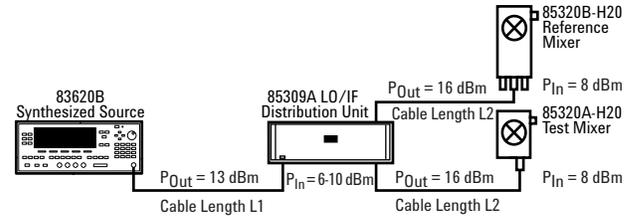
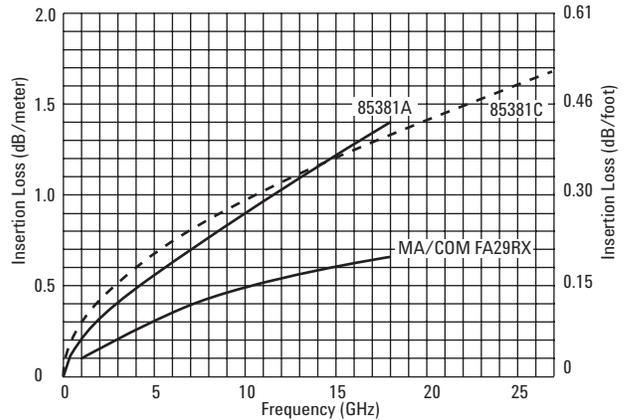

Figure 11. Required RF power levels for 85320A/B-H20 mixers
Figure 12. Insertion loss for 85381 series cables
Select a source that meets your individual preferences and needs. The higher-output power sources are useful when the distance between the LO source and the 85309A LO/IF, distribution unit is longer than the standard allowable cable lengths shown in Tables 6 through 11. By using the cable insertion loss curves (Figures 12 and 13) the additional cable length can be calculated for the higher-output power sources. The 1 Hz frequency resolution (Option 008) is recommended for both the RF and LO sources to provide a system frequency resolution of 1 Hz instead of 1 kHz.
When using a coupled reference, the reference channel power level can be determined by subtracting the cable insertion losses and the coupling factor of the directional coupler and adding amplifier gain, if any, to the output power of the transmit source. Insertion loss curves for 85381 series cables are shown in Figures 12 and 13.
Loss of LO cables is dependent on RF frequencies; lower frequencies have lower loss per unit length, and higher frequencies have higher loss (refer to Figures 12 and 13). Therefore the maximum LO frequency utilized will affect the maximum length of the cables. The maximum LO frequency is dependent on the frequency specified for the antenna range and whether fundamental or harmonic mixing is used. Lower LO frequencies have less loss and allow longer cable lengths; higher LO frequencies have higher losses, so cable lengths are shorter. There is a trade-off between LO frequency and system sensitivity. Fundamental mixing provides the lowest conversion loss in the mixer, and the best system sensitivity. Harmonic mixing allows lower LO frequencies to be used (with longer cable lengths), but has higher conversion loss in the mixer, and less system sensitivity.
The RF loss of the cables will affect the maximum length of cable that can be used between the 85309A and the mixers. The standard 85381A/C/D cables have losses as shown in Figures 12 and 13. Special low-loss cables, such as the MA/COM FA29RX cable, are about half the loss of the standard cables. Therefore the low-loss cables will provide approximately twice the distance between the 85309A and the mixers. The trade-off is higher price and somewhat less durability. MA/COM can be contacted at (800) 366-2266, FAX (800) 618-8883, or visit their website at www.macom.com. Other cable manufacturers, such as W.L. Gore & Associates, may have similar low-loss cables that would be satisfactory in this application. W.L. Gore & Associates can be contacted at (800) 445-4673, or visit their website at www.gore.com.
Figure 11 shows the RF power levels required for proper operation with the 85320A/B-H20 mixers. Table 10 shows the allowed 85381A/C Cable lengths from the LO source to the 85309A, and from the 85309A to the 85320A/B-H20 test and reference mixer modules. Table 11 shows the cable lengths with special low-loss cables.
The 85381A microwave cable is a semi-flexible cable that operates from DC to 18 GHz. It is intended for use as an LO cable between the LO source and the 85309A LO/IF unit (see Figure 11). If a rotary joint is used to route the test LO and IF signals so that the cable is not continuously flexed, the 85381A cable can be used between the 85309A and the 85320A/B test and reference mixers. The maximum orderable length for this cable is 25 meters. (See Figure 18, cables B3, B4 and B5.) Refer to Figure 12 for cable loss characteristics.
17 Record this value in Figure 18. Then use Figure 12 or 13 to calculate the equivalent length in meters at the maximum LO frequency using the same cable type used for the LO cables between the 85309A and the mixer modules. The reference LO cable length must be increased by this amount.
22 Determine the lengths of the RF cable(s) (cables B1 or B2 and B3) used to connect the AUT to the frequency converter and record them in Figure 19. Select the cable type (see Figures 12 and 13) based on the maximum test frequency.
When using a coupled reference, the reference phase-lock power level can be determined by subtracting the cable insertion losses and the coupling factor of the directional coupler and adding amplifier gain, if any, to the output power of the transmit source. Insertion loss curves for 85381 series cables are shown in Figures 12 and 13.